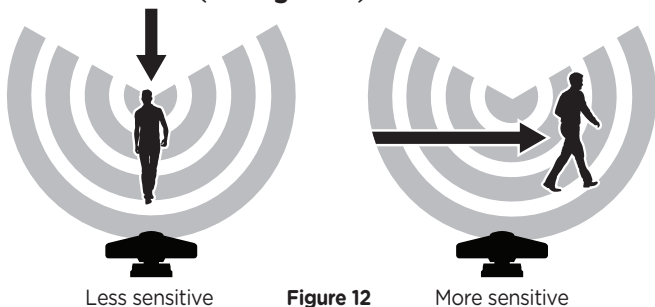

Figure 12
- NOTE:** After turning on power to the light fixture, allow the motion sensor to completely warm up (~40 sec) before beginning the setup process. The light will initially turn on at the daylight (DL) color during the warm up time, then will turn off and operate according to switch position settings.
- NOTE:** When the “Security Light On Time” is set to the “Test” position, the light fixture will operate during the day or night. The security light will turn on at maximum lumens at the daylight (DL) color and stay on for 4 seconds after all motion is stopped.
- All motion sensors are more sensitive to movement across the detection area, and less sensitive to movement toward the sensor (see **Figure 12**).